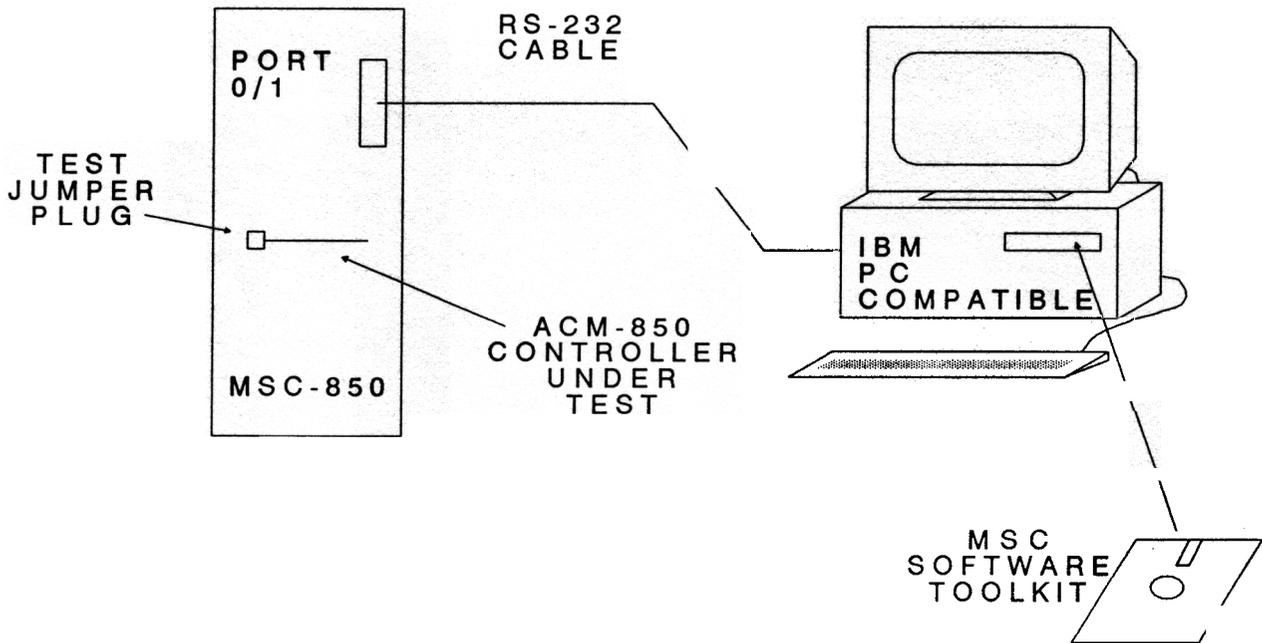

Figure 5-1 Test Set-up, Block Diagram
2. Connect the PC through an RS-232C Serial Communication Cable to Port 1 of the MAC-850 Main Processor in the MSC-850 System Unit (Figure 5-1).